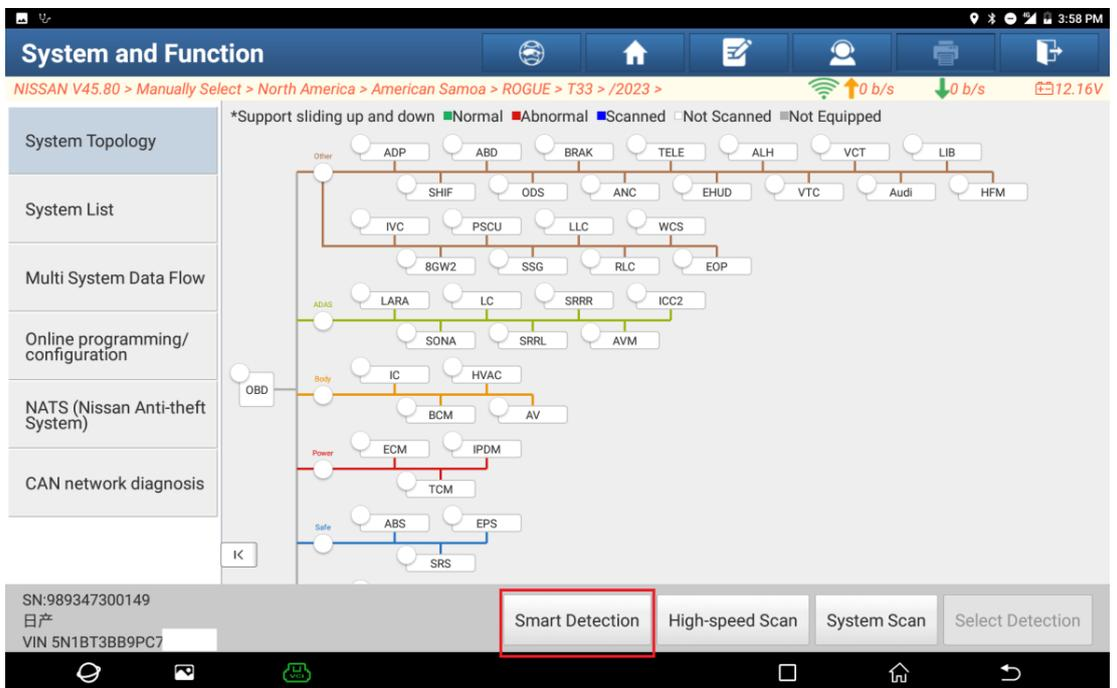

Figure 2
- Choose [Manually Select -> North America -> American Samoa -> >ROGUE -> T33 -> 2023-] in sequence to enter the full vehicle systems, and click [Smart Detection] to scan the full vehicle systems (as shown in Figure 2).